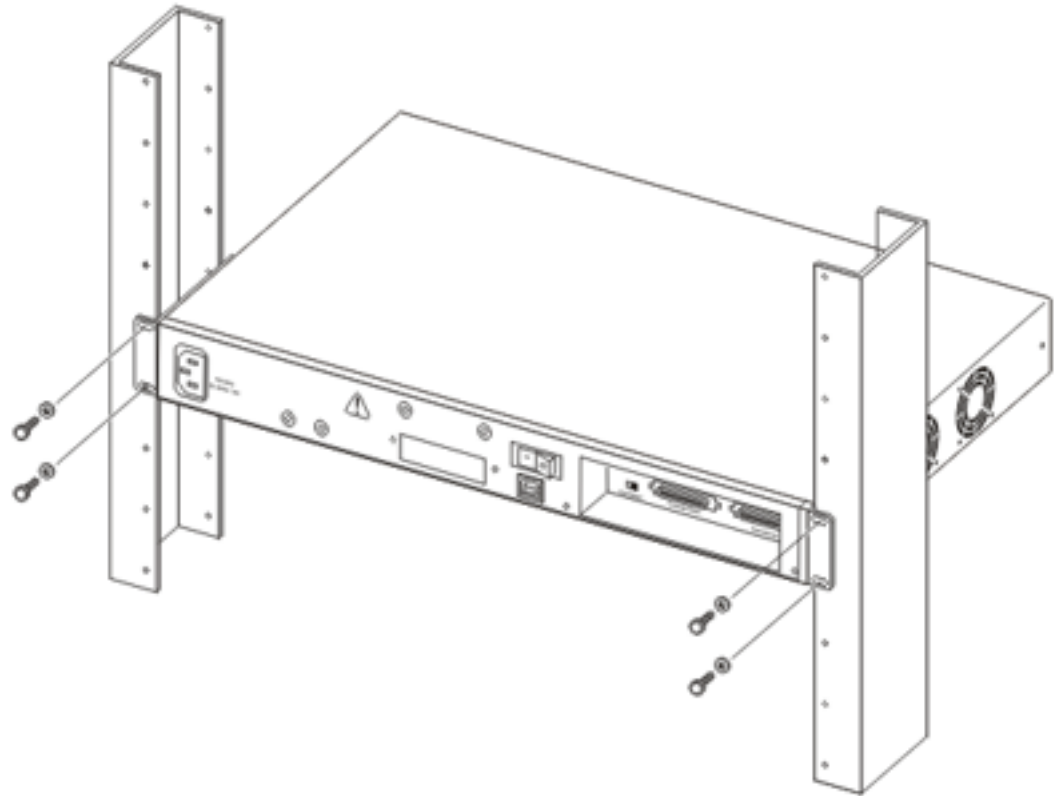

Figure 16: Rear mounted switch configuration
2. Slide the switch into the rack as shown in Figure 16: Rear mounted switch configuration on page 70. Insert and tighten the rack-mount screws with a #2 Phillips screwdriver.